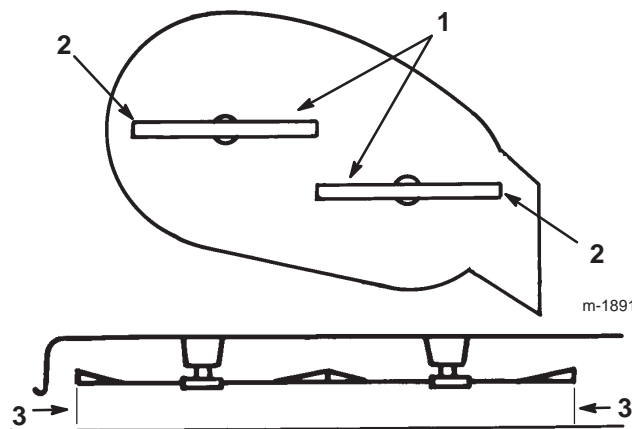

Figure 46
9. Carefully rotate the blades side to side (Fig. 46). Measure between the outside cutting edges and the flat surface (Fig. 46). If both measurements are not within 3/16 in. (5 mm), an adjustment is required; refer to steps 10 and 11.